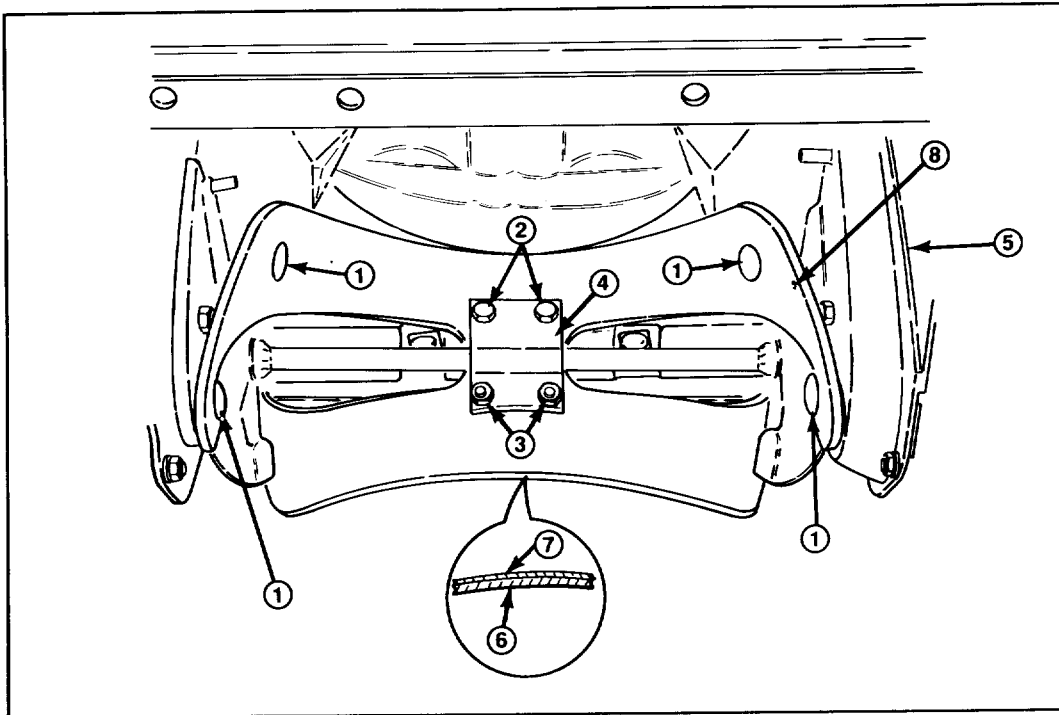

Figure 16
1. REMOVING BLADE (Fig. 16)—Remove (4) torx screws (Bit No. T27), (2) capscrews, and (6) locknuts securing blade to rotor shaft assembly.
2. Slide the blade out from between the blade support (Fig. 16).
3. **INSTALLING NEW BLADE**—The rotor blades are made of laminated rubber. Examine the edge of a blade to see the difference in layer thicknesses (Fig. 16).
Both blades must be installed with the thick side facing down, and the wear indicator holes must be on the drive belt cover side (Fig. 16). If one blade is installed with the thicker layer facing up and the other blade installed with the thicker layer facing down, the blades will be unbalanced, causing the snowthrower to “hop” or “bounce.”